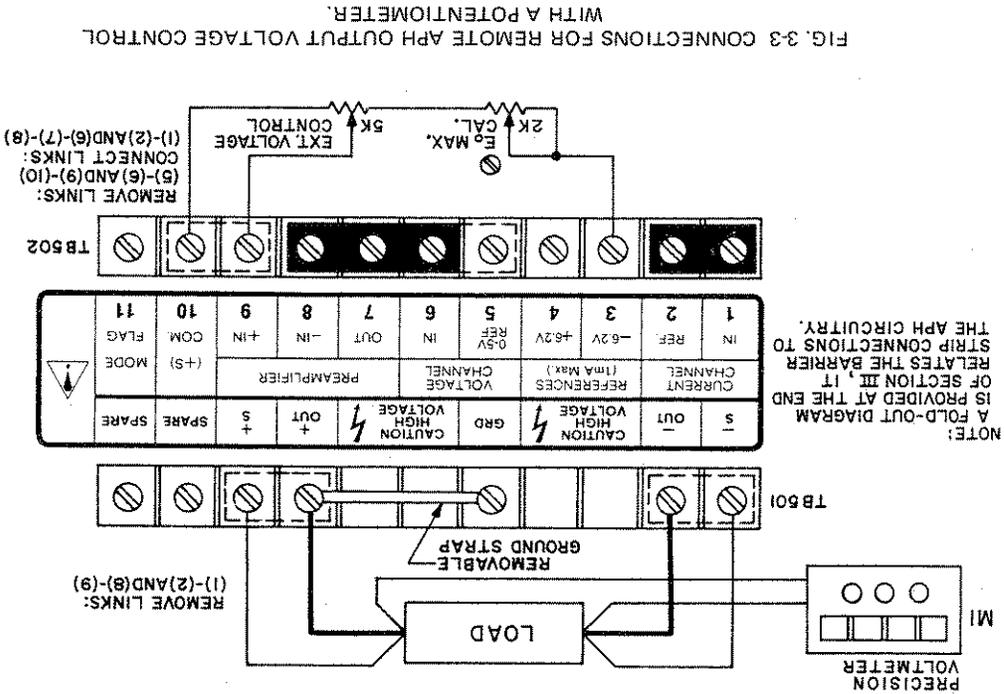

FIG. 3-3 CONNECTIONS FOR REMOTE APH OUTPUT VOLTAGE CONTROL WITH A POTENTIOMETER.
3-13 Since the REFERENCE potential is normally 6.2 volts, a resistive divider is used across it, consisting of the EXTERNAL VOLTAGE CONTROL and the CAL. rheostat. The CAL. rheostat enables us to adjust the control voltage to exactly 5 volts across the EXTERNAL VOLTAGE control. The wiper of the EXTERNAL VOLTAGE CONTROL potentiometer is now connected to the non-inverting PRE-AMPLIFIER input so that the control voltage is repeated at its output, which is in turn connected to the MAIN VOLTAGE AMPLIFIER INPUT. (See connecting diagram FIG. 3-3 and fold-out diagram FIG. 3-15.)
- 1) Connect the potentiometer (EXTERNAL VOLTAGE CONTROL), the calibrating rheostat (E_o CAL.), the LOAD and the OUTPUT VOLTMEETER (M1) to the APH as shown in FIG. 3-3. FOR INTERCONNECTION DETAILS AND PRECAUTIONS, TURN TO THE "WARNING" PARAGRAPH ON PAGE 3-4.